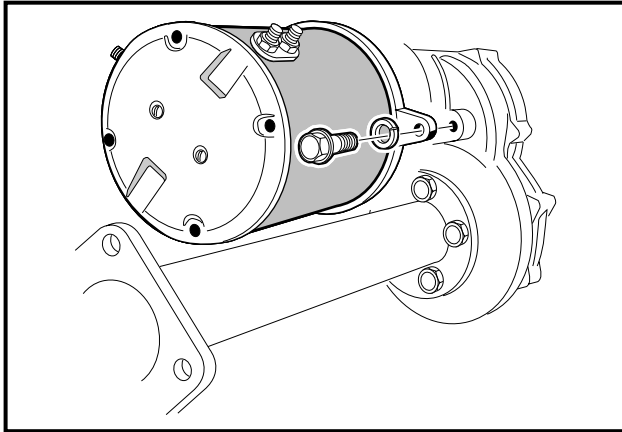

Figure 16a-12 Motor Positioning Bolt
1. To detach axle tubes (14 and 35) from the transaxle housing, remove the bolts and lock washers (8 and 9) (Figure 16a-5, Page 16a-3).
2. Remove 11 bolts (24) that hold housing together.
3. Pull the halves of the housing (11 and 20) apart. If necessary, tap lightly on the spline of the input pinion (17). See following CAUTION.